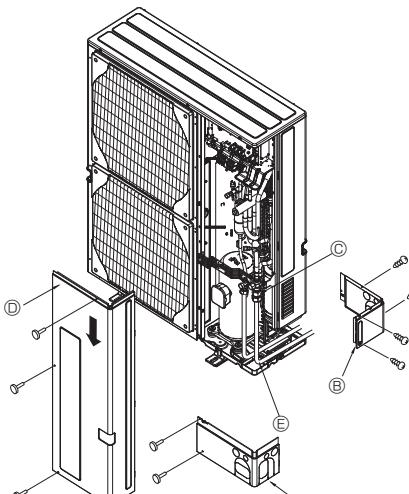

Fig. 4-3
③ Use the following procedure for connecting the gas-side piping. (Fig.4-3) (SHW230)
- Braze the ④ Joint pipe provided to the outdoor unit using locally procured brazing materials and ⑤ Local piping without oxygen.
- Connect the ④ Joint pipe to the gas-side Stop valve.